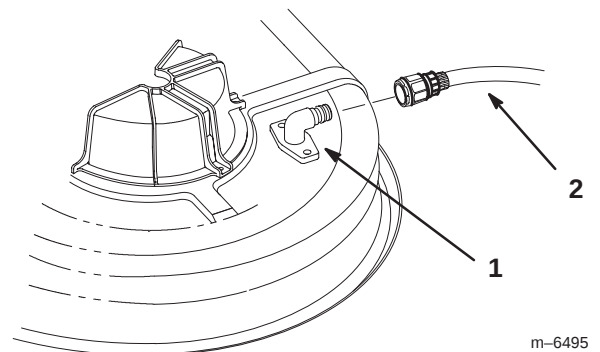

Figure 49
3. Attach the hose coupling to the end of the mower washout fitting, and turn the water on high (Fig. 49).